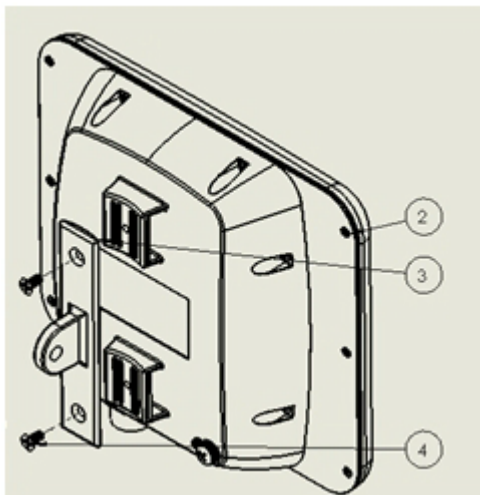

Figure 4-31: Securing the mounting adapter
1. Referring to Figure 4-31 below: Secure the adapter (3) to the rear of the ODU (2) using the two screws provided (4). Use a Phillips screwdriver set to a torque of 2.0 NM.